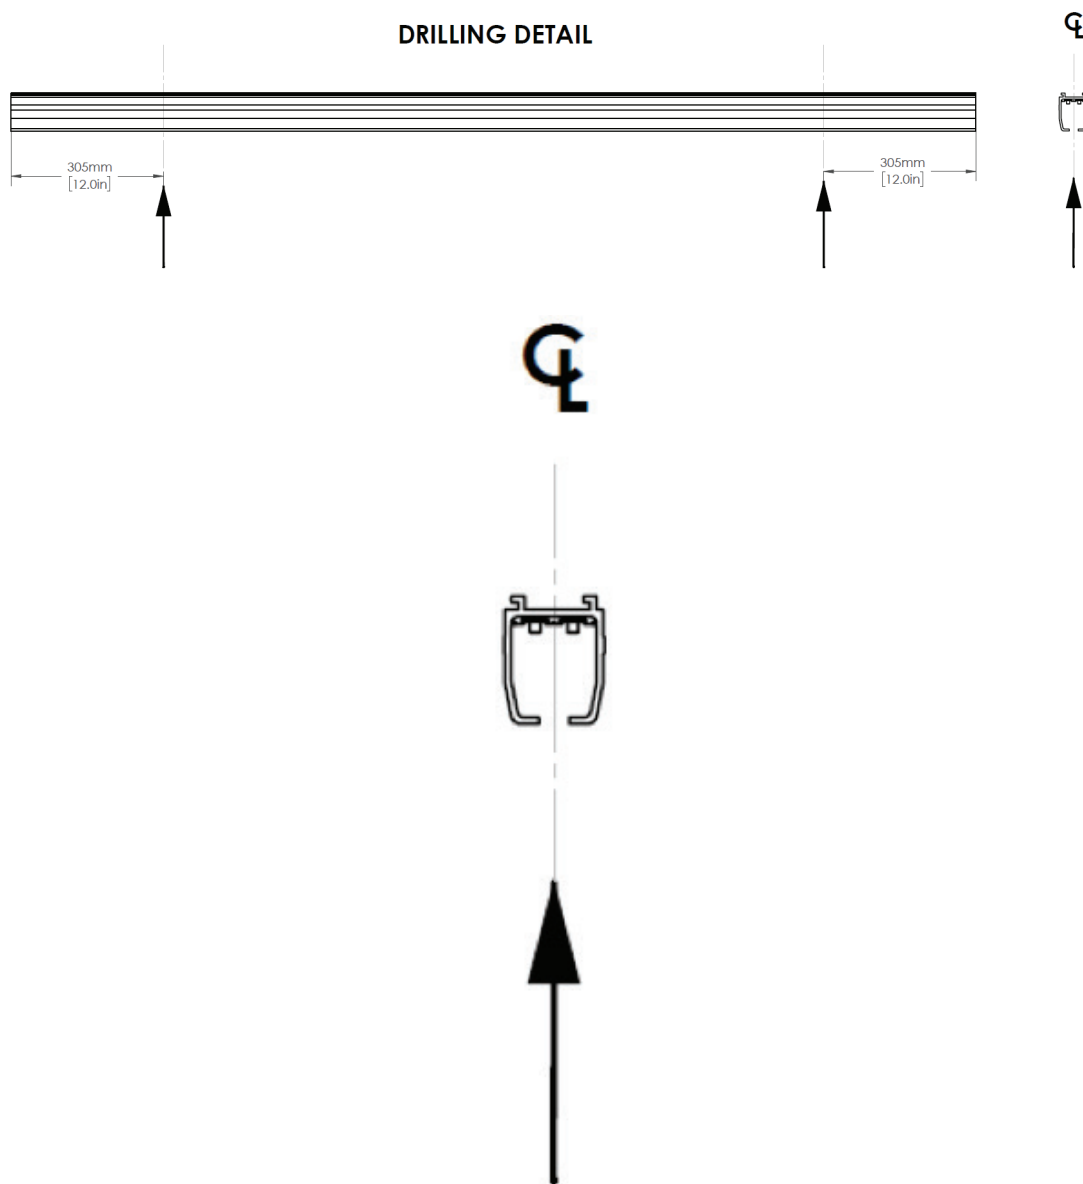

Figure 36: **Drilling Detail**
- As shown in Figure 36, drill from the bottom up, through the channel, to ensure you drill between the metal segments of the TransStrip.